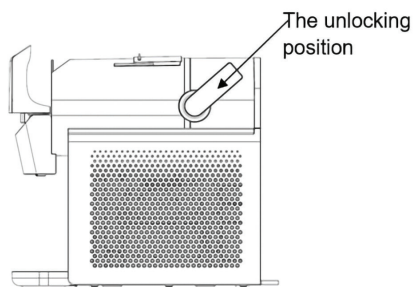

Figure 4
2. Turn the charging barrel switch to the unlocking position (see Figure 4).